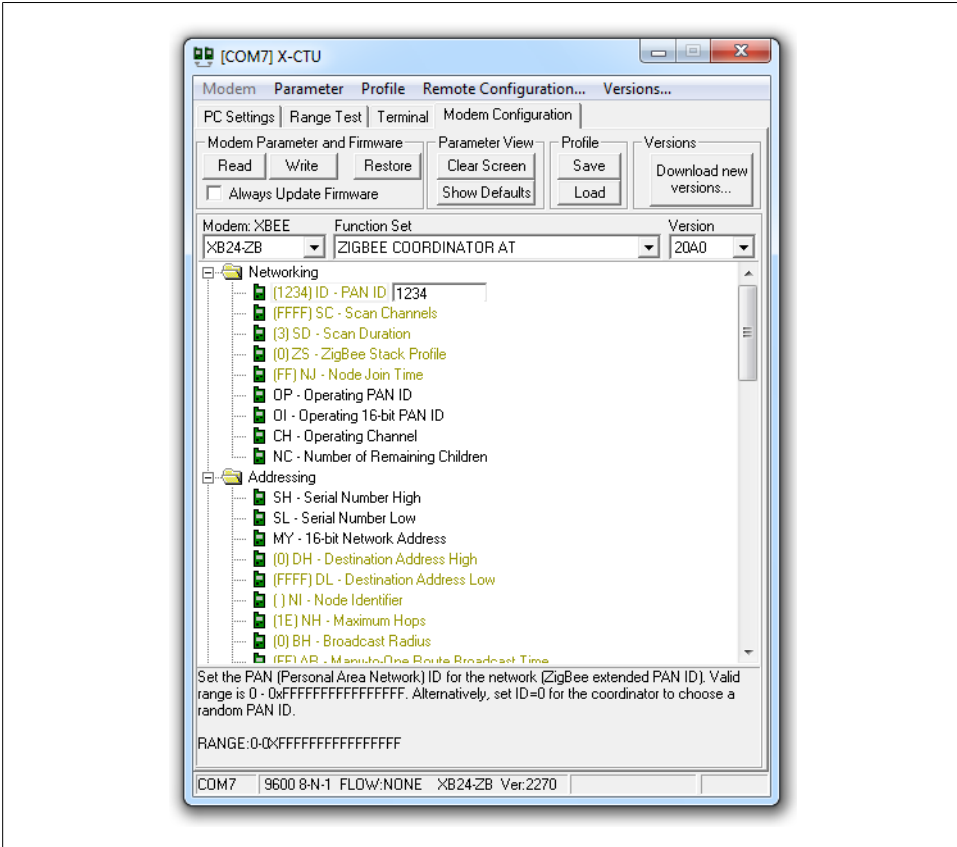

Figure 14-5. Configuring the XBee
If you have trouble getting your XBees to talk, make sure they both have the same type of firmware (e.g., XB24-ZB under the Modem: XBEE setting shown in Figure 14-5), and that they are both running the most current version of the firmware (the Version setting shown in Figure 14-5). For a comprehensive set of XBee troubleshooting tips, see Robert Faludi's "Common XBee Mistakes" at <http://www.faludi.com/projects/common-xbee-mistakes/>. For extensive details on working with XBees, see his book, *Building Wireless Sensor Networks*, published by O'Reilly (search for it on [oreilly.com](http://oreilly.com)).
7. Change the PAN ID setting from 0 to 1234 (or any hexadecimal number you want, as long as you use the same PAN ID for all devices on the same network), as shown in Figure 14-5.
10. Next, leave X-CTU running and leave that XBee plugged in. Plug your second XBee in to a different USB port. Repeat the preceding steps (in step 2, you will be starting up a second copy of X-CTU), but instead of choosing ZIGBEE COORDINATOR AT in step 4, choose ZIGBEE ROUTER AT. On this XBee, you should also set Channel Verification (JV) to 1 to make sure it will confirm that it's on the right channel, which makes its connection to the coordinator more reliable.